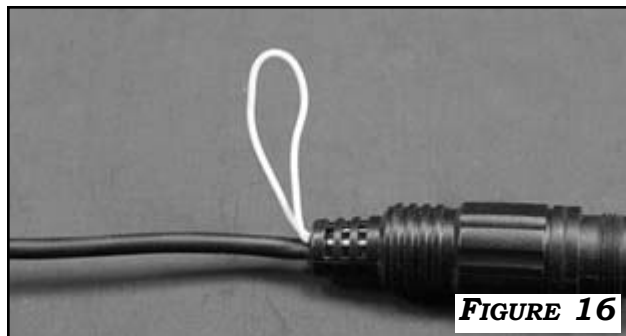

FIGURE 16
2. THIS CAMERA INCLUDES PARKING GRIDLINES OVERLAID ON THE VIDEO FEED BY DEFAULT TO ASSIST WHEN PARKING IN REVERSE. IF THE DRIVER DOES NOT WISH FOR GRIDLINES TO BE INCLUDED, SIMPLY LOCATE LOOP WIRE CONNECTED TO THE CAMERA HARNESS AND CUT IT IN HALF. **FIGURES 16 & 17**